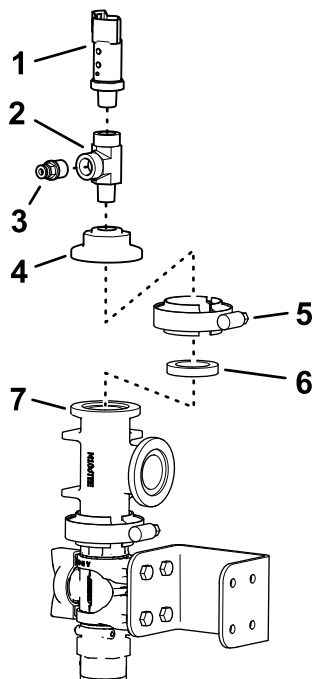

Figure 43
8. Apply PTFE sealant to the threads on the coupler and connect the coupler to the T-fitting (Figure 43).
9. Apply PTFE sealant to the threads on the T-fitting and connect the T-fitting to the fitting cap (Figure 43).
10. Assemble the pressure transducer to the T-fitting as shown in Figure 43.
11. Assemble the fitting cap and transducer assembly to the control valve with a gasket and flange clamp, and tighten the clamp by hand (Figure 43).